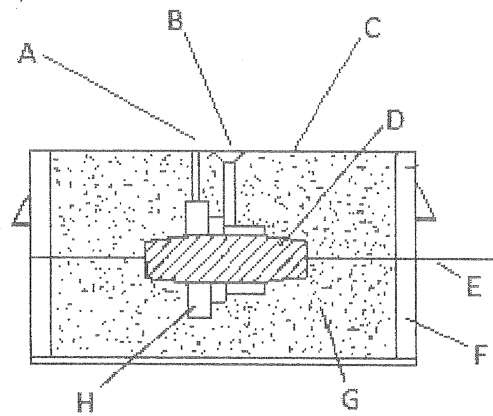

Figure Q1
- c) Identify the labeled items shown in the sectional view of the sand casting shown in the Figure Q1 (A to H)